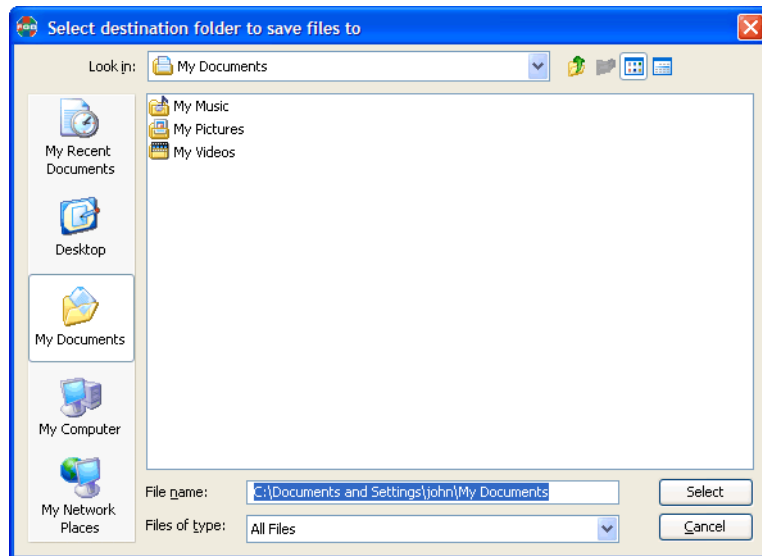

Figure 4-5 FTP Select Download Destination Folder
4. Click on the **Browse** button next to the **Destination** box to navigate to the desired device and folder in which to store the transferred files (see Figure 4-5 below). Alternatively, if the path name is known, it can be typed directly into the **Destination** box.